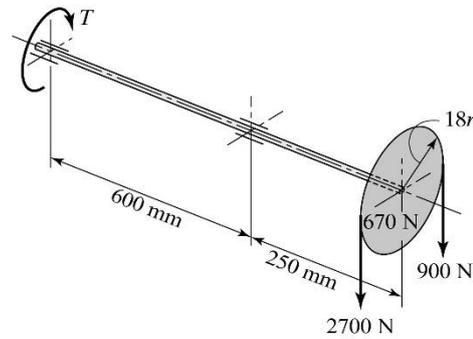

Fig.10
10. Determine the required outer diameter for the hollow shaft of Fig. 10 having an inner diameter 0.6 as great as the outer diameter. The shaft rotates and the loads are steady. You may use $S_{yp} = 415$ MPa, $S_e = 305$ MPa, $N_{fS} = 2.0$, and $K_{ft} = K_{fb} = 1.0$.